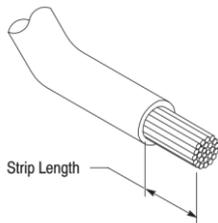

Figure 3
5. Strip the AC power wires as per, Figure 3.